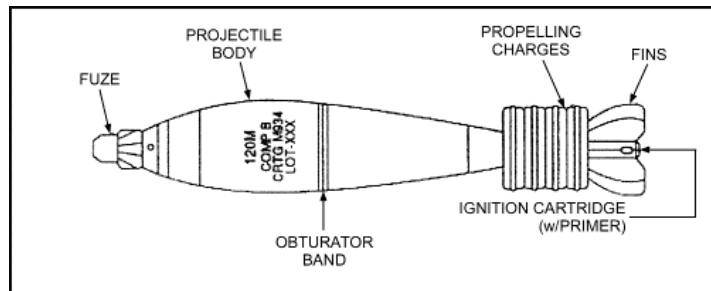

Figure 7-13. M934 HE cartridge.
- (1) Type and use: High explosive fragmentation and blast.
- (2) Identification: Olive drab with yellow markings.
- (3) Components: M745 PD fuze; M230 propelling charge.
- (4) Maximum range: 7,200 meters at charge 4.
- (5) Minimum range: 200 meters at charge 0.
e. M934 HE Cartridge (Figure 7-13).